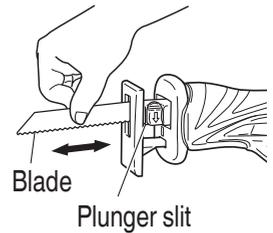

Fig. 10
- (5) Pull the back of the saw blade two or three times by hand and check that the blade is securely mounted. When pulling the blade, you will know it is properly mounted if it clicks and the lever moves slightly (**Fig. 10**).